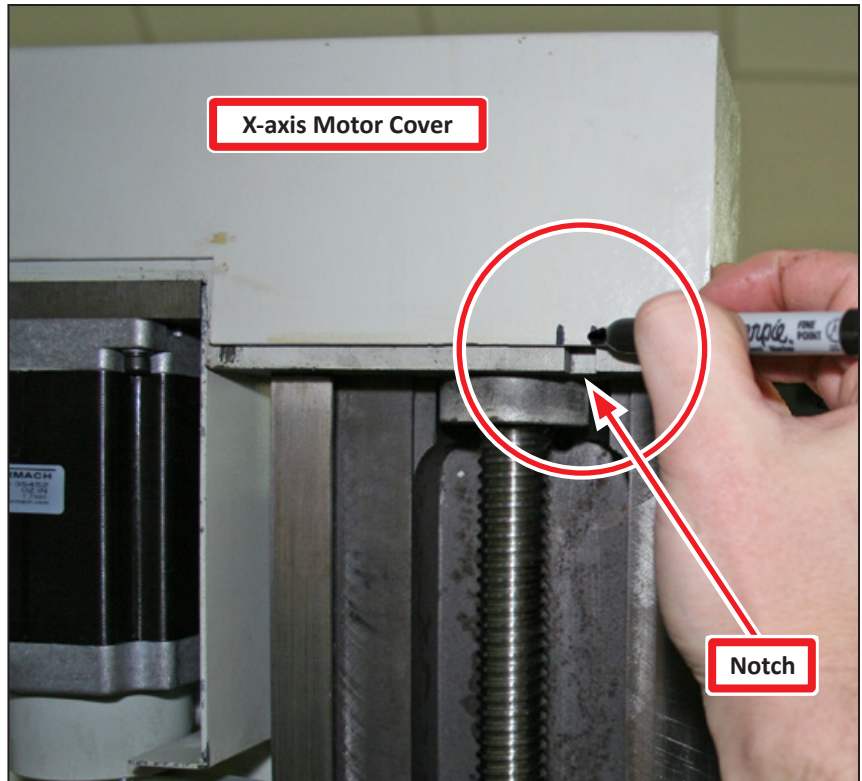

Figure 50
5. Locate the notch below the X-axis motor cover as shown in **Figure 50**.